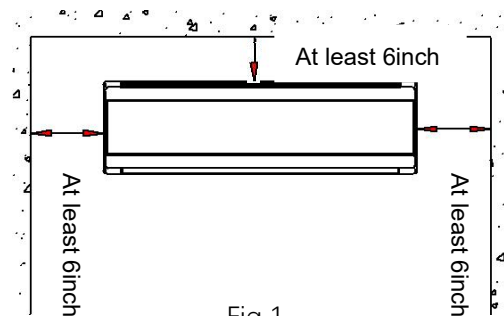

Fig 1
- Ensure the distance as required in Fig.1.
- The back of the indoor unit should be close to the wall (Fig.1)